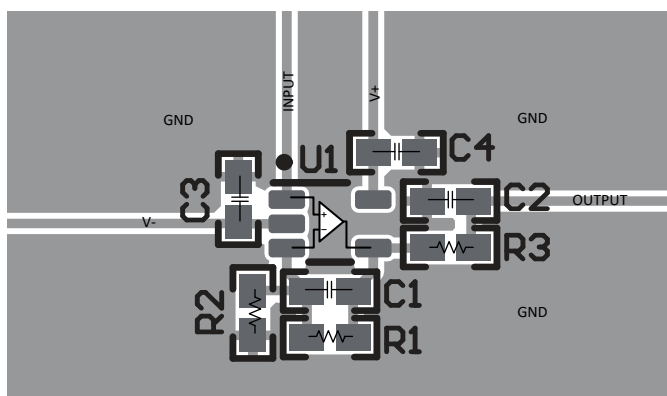

FIG 10-2. Operational Amplifier Board Layout for Noninverting Configuration - SC70 (DCK) Package
- Place the external components as close to the device as possible. As illustrated in Figure 10-2, keeping RF and RG close to the inverting input minimizes parasitic capacitance.